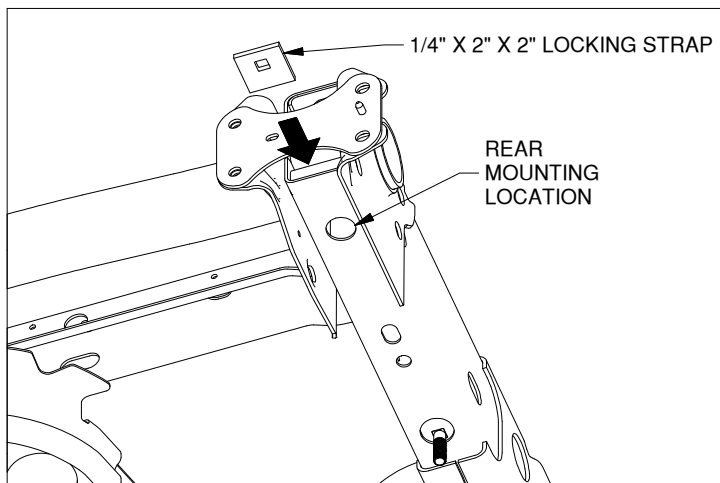
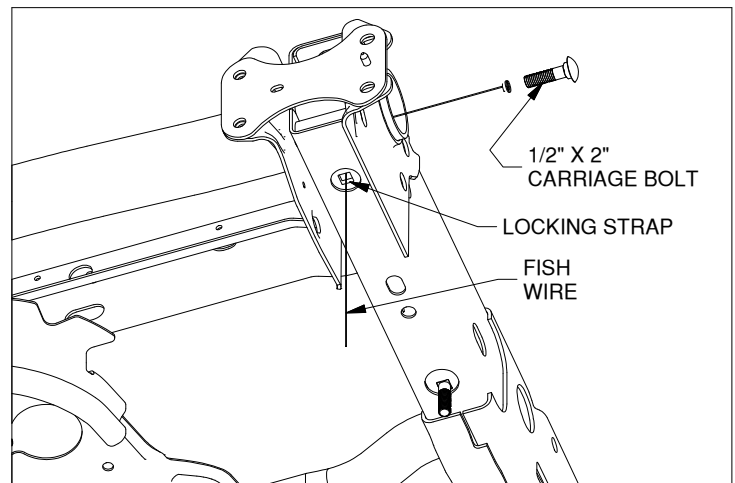

Figure B4: View of passenger side of frame.
Figure B5: View of passenger side of frame.
- 3. Install the rear mounting location.** Locate the 1/4" X 2" X 2" locking straps and two 1/2" X 2" Carriage Bolts. Place the locking strap inside of the frame so that its square hole can be seen through the rear frame mounting locations. See Figure B4. Pass a fish wire, coil end first, up through the now visible hole in the locking strap, then pass the coil up and out of the frame, see figure B5. Thread a Carriage Bolt onto the coil end of the fish wire. Pull the fish wire and bolt back through the frame until the carriage bolt has passed through the locking strap. Make sure that the square shoulder of the carriage bolt is fully engaged in the square hole of the locking strap. Uncoil the fish wire and repeat this process for the other side.